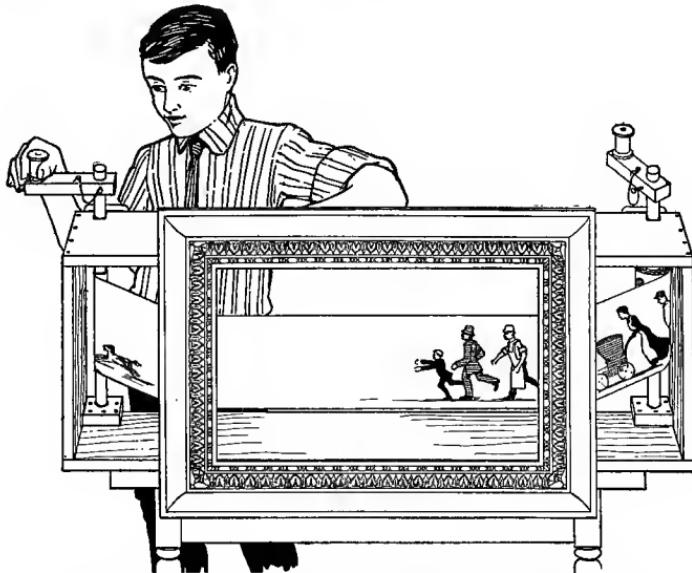

FIG. 357.—The Completed Moving-Picture Theater.
An old picture-frame like that shown in Fig. 357, with an opening about 16 by 30 inches in size, will form
picture-frame on the stage framework as shown in Fig. 357. Place your theater upon a table or packing-case with the framework close to the edge, so the picture-frame will hang down as shown in Fig. 357.
**Scenery.** The picture-frame opening above and below the picture strip must be filled up so the audience will not see the operator. He would be seen, of course, if the openings were left as in Fig. 357. The matter may be taken care of by tacking strips of white cloth or cardboard to the back of the picture-frame above and below the picture strip. But a better idea, and one which is easily carried out, is to prepare sets of scenery. These will add "atmosphere" to your pictures, and make them decidedly more interesting. The scenery may be prepared very roughly with crayons upon cardboard. Cardboard boxes may be broken up for material, and if you haven't enough boxes at hand they can be had for the asking at any dry goods store. If the cardboard is colored, paste white paper over one side for a working surface.